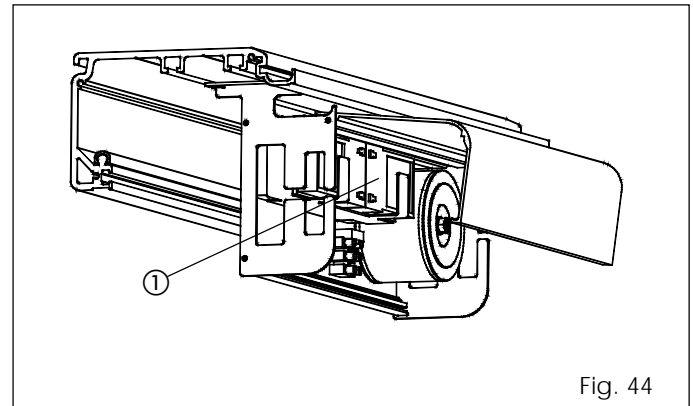

Fig. 44
For twin-motor doors, house the buffer batteries inside the transformer enclosure (fig. 44 ref. ①).